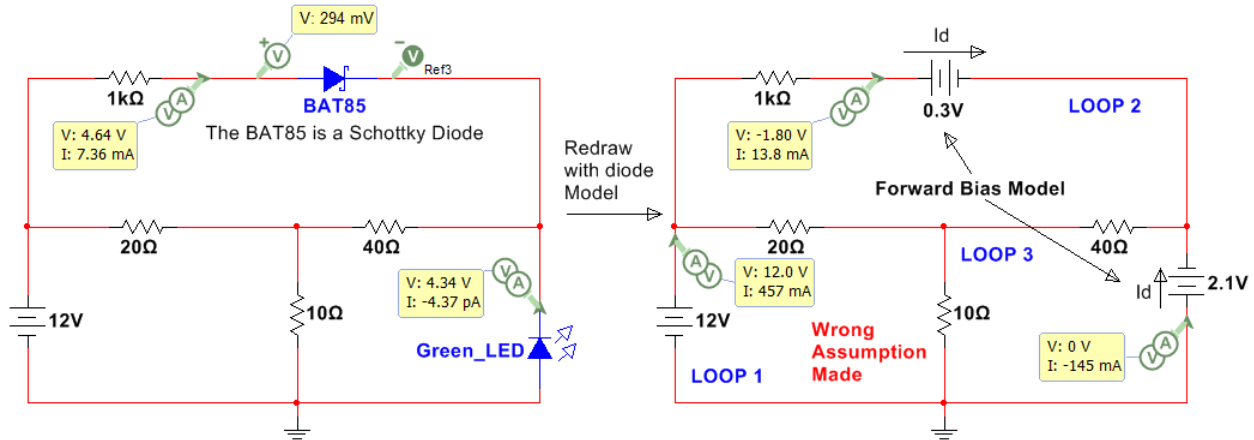

Figure 6.9: Circuit for Example 6.5 with the **wrong assumptions made**.
Example 6.5) Follow the DC Diode Analysis process to solve the following left circuit in Figure 6.9.
Step 1) Assume **Both diodes are forward biased** (1 of 4 possibilities). Model is shown in Figure 6.9 (Right).
Assuming currents are clockwise, solving this matrix yields  $\rightarrow I_1 = 457.4 \text{ mA}$ ,  $I_2 = 13.8 \text{ mA}$ ,  $I_3 = 144.5 \text{ mA}$ . (These values are verified in Multisim in the right circuit of Figure 6.9)